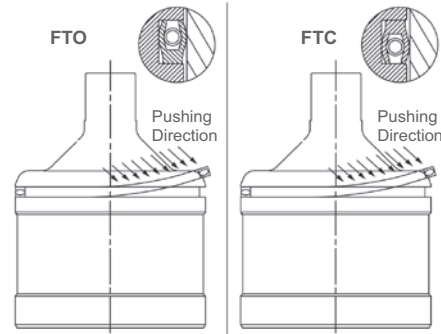

Figure 5 - Spring Energized Seal Ring
6.2.1 41305 valve (Figures 5, 17 and 20)
- Place the ring over the conical top of the plug so that the lips of the ring face to the pressure (see Figure 5).
To the assembly direction of the radial ring (11F) on the plug (see Figure 5). Flow Tends to Open: the open side is in the top. Flow Tends to Close: the open side is in the lower part.
- Slip the ring into the groove (without spinning it) as shown in Figure 5. This operation can be facilitated by heating the ring. The temperature of the ring should not exceed 150°C.